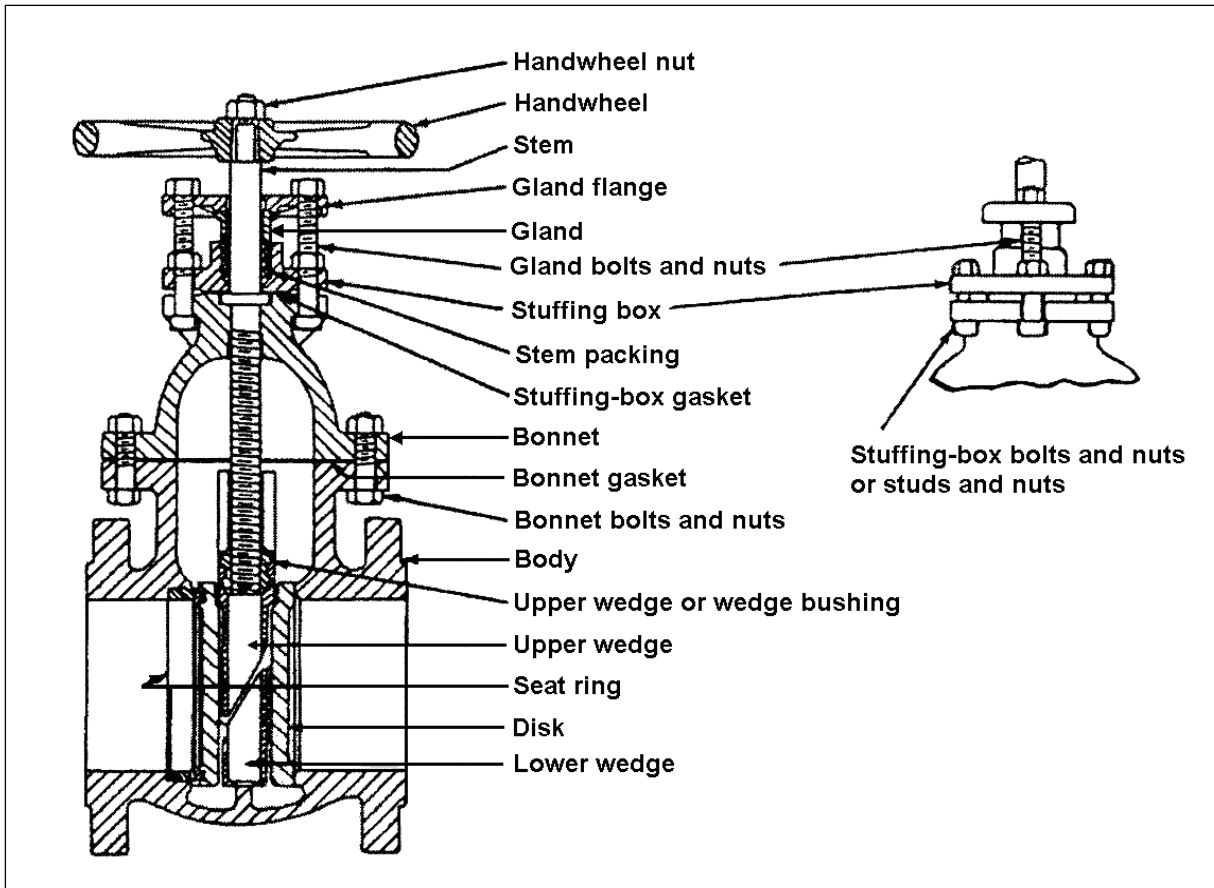

Figure 2
c. Plug valves (Non-rising Stem Gate Valve (Figure 2).
- (1) Check lubricant to make sure it is free of dirt, sand, and any foreign matter that could clog lubrication grooves or act as an abrasive between plug and body of valve.
- (2) Remove lubricant screw.
- (3) Add lubricant and replace screw. Tighten screw to force lubricant down into all parts of valve. One or two sticks or a few strokes of a grease gun should be all that is needed.